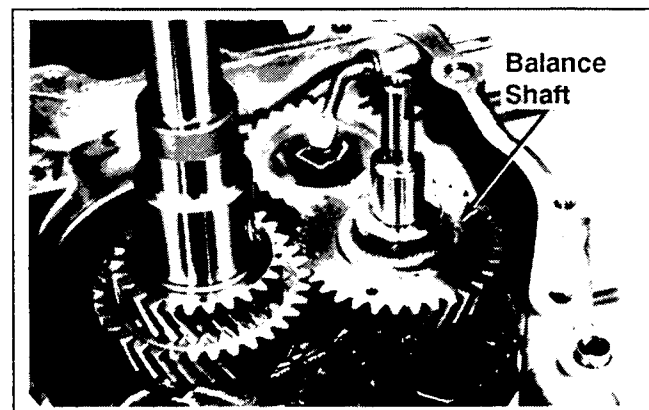

Figure 9-40. Removing Balance Shaft.
- Remove the balance shaft from the crankcase. See Figure 9-40.